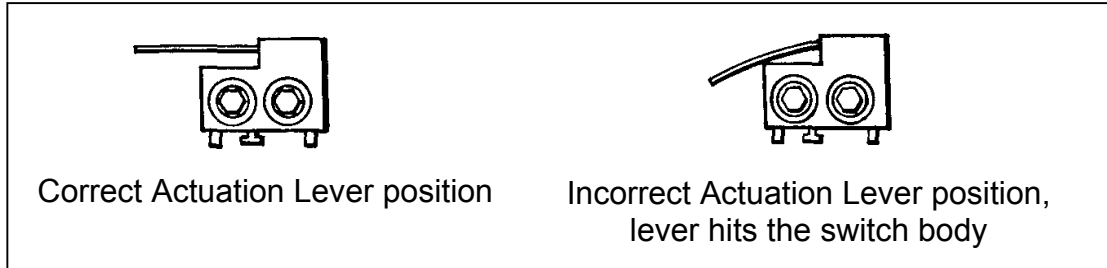

Figure 5-3. Firing Force Switch Adjustment
- 2 Adjust the FIRING FORCE SENSITIVITY ADJUSTMENT SCREW, item [8], with a 9/64 inch hex wrench so that Actuation Lever on Firing Switch is horizontal as shown in Figure 5-3.